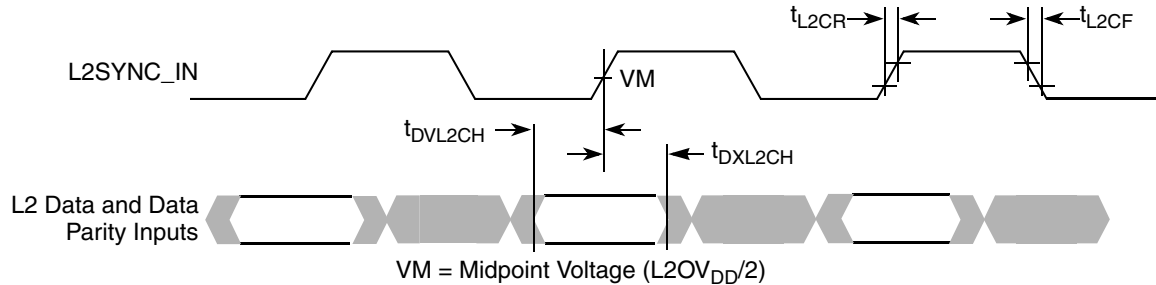

Figure 8. L2 Bus Input Timing Diagrams
2. All input specifications are measured from the midpoint of the signal in question to the midpoint voltage of the rising edge of the input L2SYNC_IN (see Figure 8). Input timings are measured at the pins.
Figure 8 shows the L2 bus input timing diagrams for the MPC755.